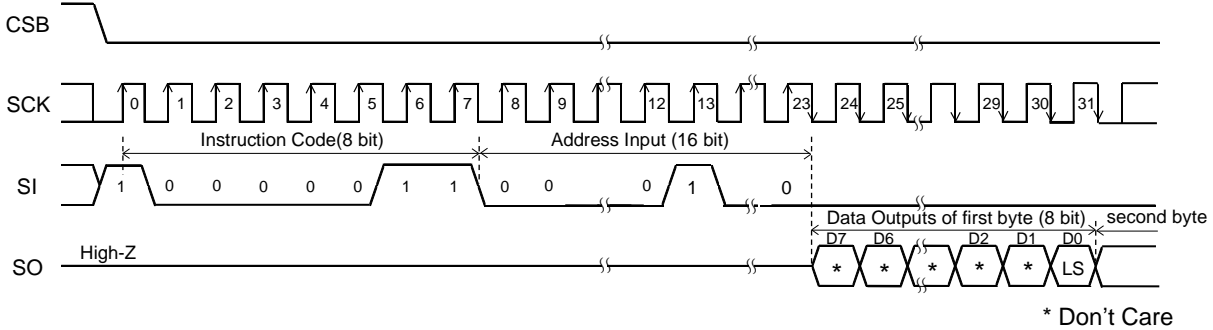

Figure 49. Read Lock Status Command
*(Note 19)* Refer to Figure 49 and Figure 50